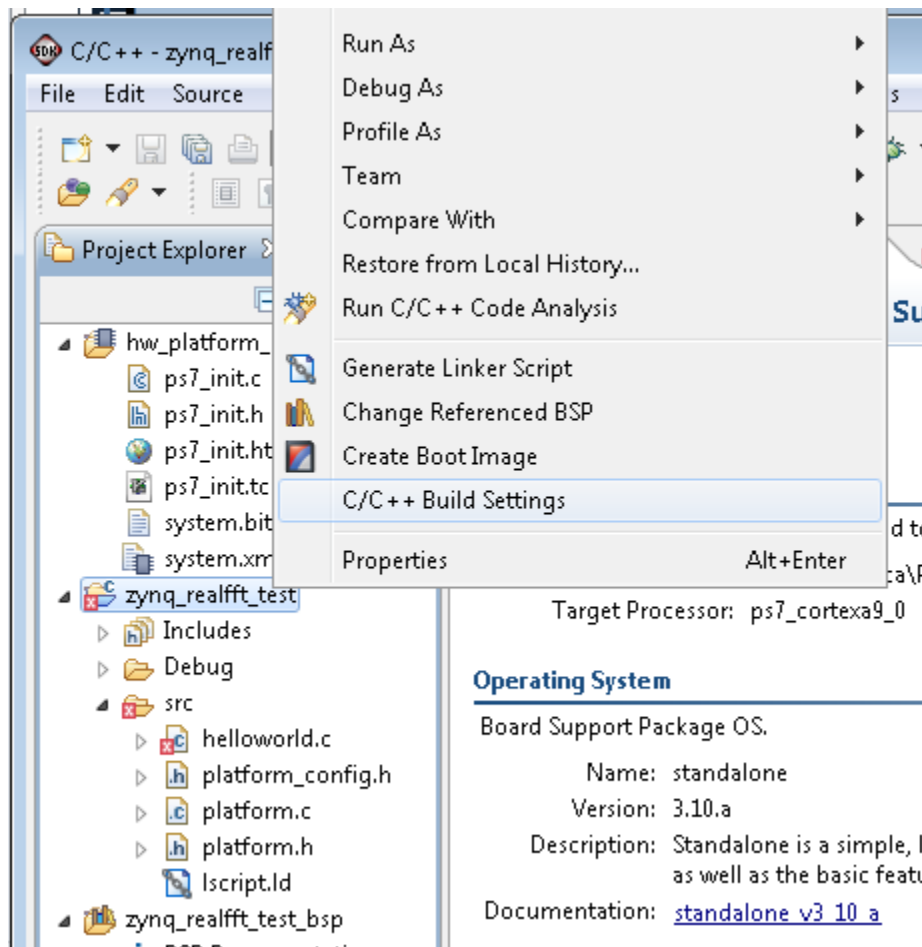

Figure 264: Specify C/C++ Build Settings
- a. Right-click the **zynq_realfft_test project** in the Project Explorer pane and select **C/C++ Build Settings (Figure 264)**.